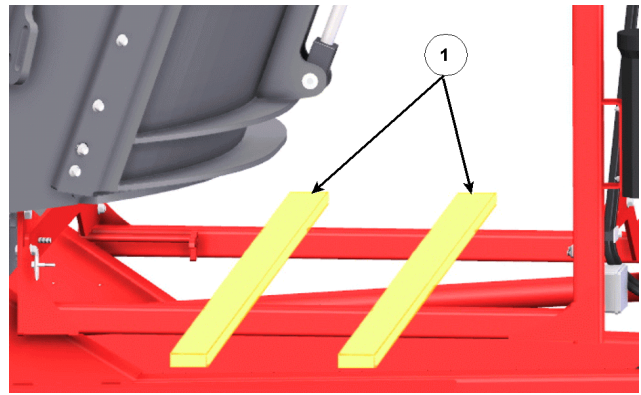

Figure 10: Skids to help with installation of Conveyor
7. To aid in the installation of the conveyor, place skids (1) between the lower support frame of the platform, as shown in *Figure 10*. Use either:
- b. 2 of 1" x 4" x 72" long lumber, shown in *Figure 10*.